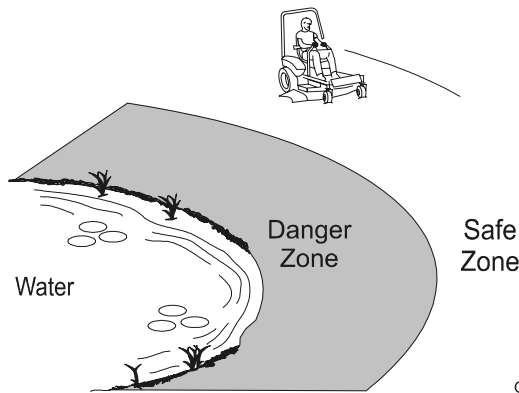

FIGURE1
- Use a walk behind mower and/or a hand trimmer near drop-offs, ditches, steep banks or water. This area can be dangerous, see Figure 1.